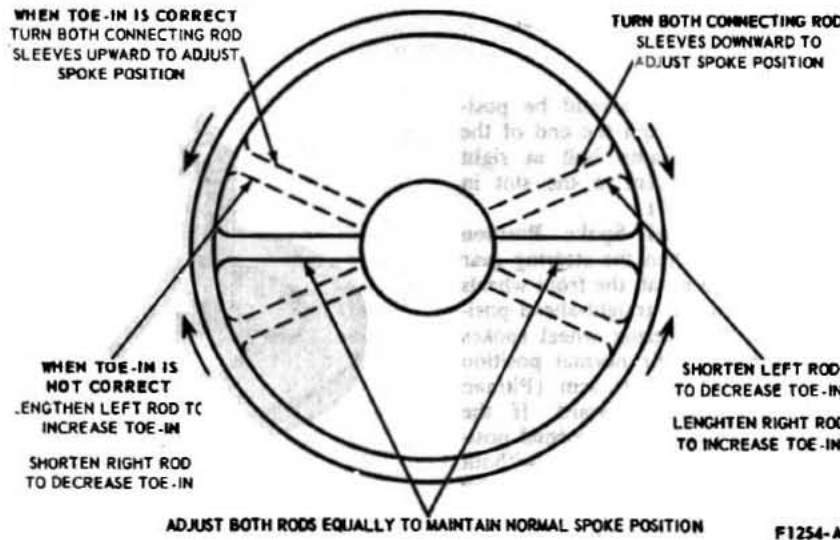

Fig. 85—Toe-in and Steering Wheel Spoke Adjustments—Two-Spoke Steering Wheels
4. Recheck toe-in and the steering wheel spoke position. If toe-in is correct and the steering wheel spokes are still not in their normal position, turn both connecting rod sleeves upward or downward the same number of turns to move the steering wheel spokes (Figs. 85 and 86).